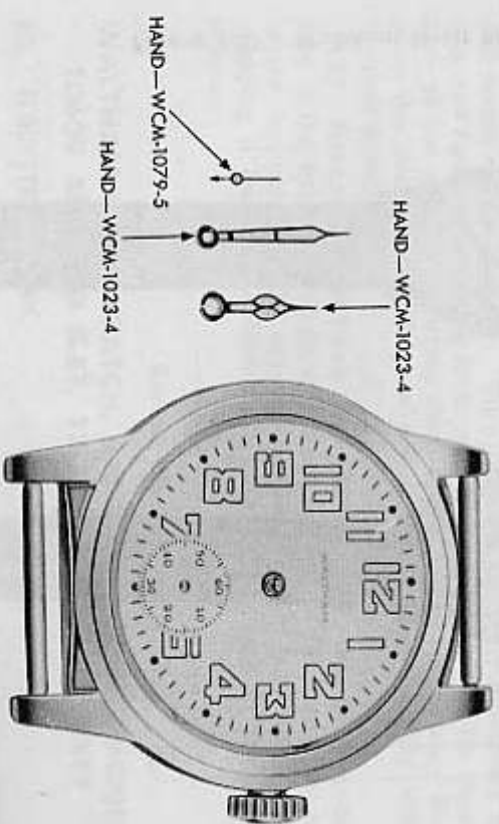

Figure 152 — Waltham Wrist Watch — Hands Removed
- b. Remove Hands (fig. 152). Cut a V-slot in a piece of paper and slide it under the hands to protect dial. Remove hands with hand remover.
**n. Replace Hands (fig. 152).** Replace seconds hand. Replace hour hand with point at twelfth hour; replace minute hand in same position. Check hands for clearance at dial, making sure they do not hook on each other when turned through a complete revolution.